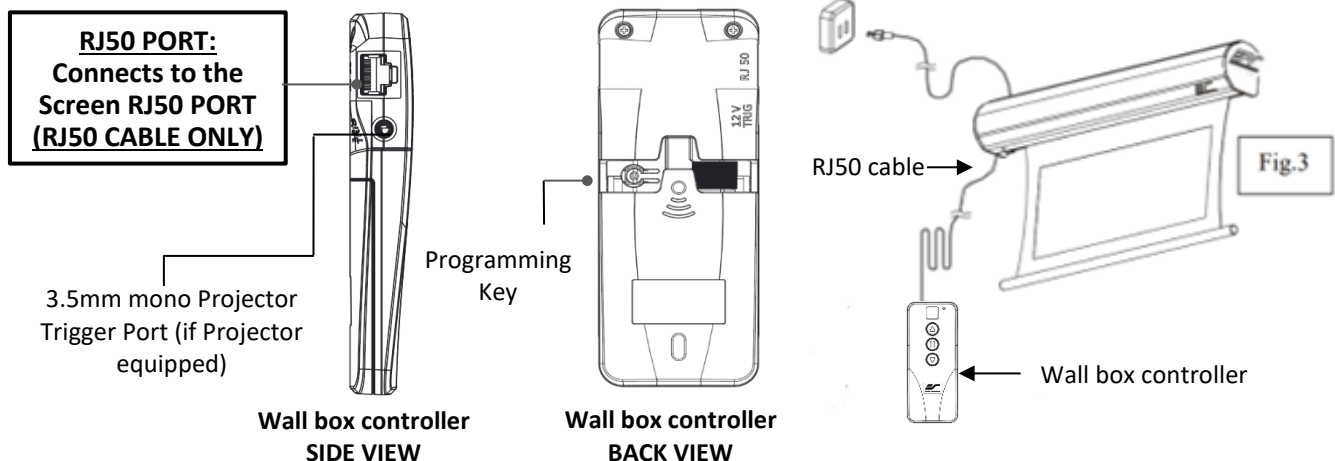

Fig.3
2. Wall box controller (Item C, Fig.3): The wall box controller switch is a wall mounted control box with an up/stop/down button. It plugs directly into the screen's RJ50 port.